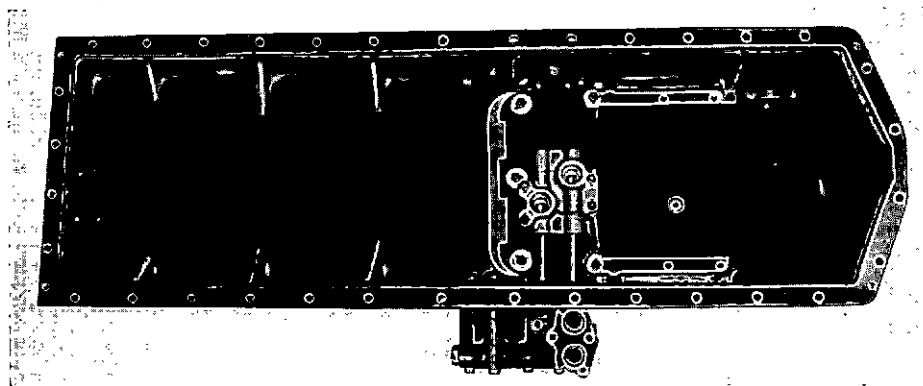

Fig. 23 Interior, forward pannier sump
22. **Sump.** Fit the relief valve assembly and oil gallery pipes (see fig. 23) using new joints and 'O' rings. Coat sump and crankcase joint faces thinly with 'Wellseal', attach a new joint washer and temporarily fit a $\frac{1}{8}$ inch UNF guide pin of suitable length (dependent on sump type) at each corner of the crankcase joint face. Lower the sump into position on the pins, fit the setbolts, each with a plain and spring washer, and tighten them evenly. Tighten the sump drain plug to between 80 and 85 lbf.ft. (110 to 115 Nm) and wire-lock it.